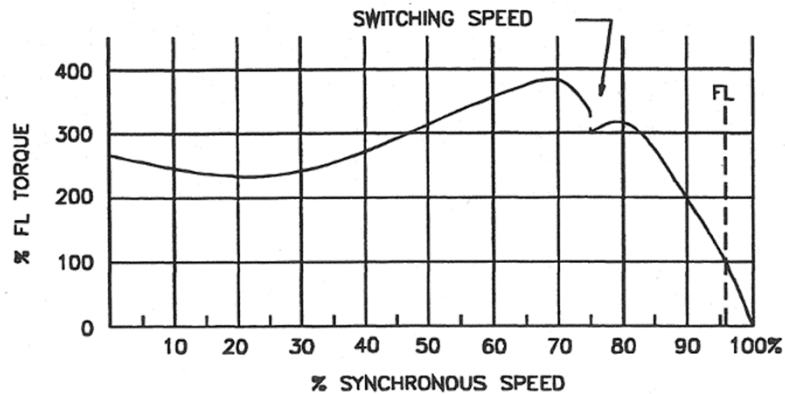

Figure 8 - The Typical characteristic curve of a split-phase motor
25. The starting torque of a split-phase motor is relatively low because of the phase difference between the current in the stator winding and the current in the rotor winding. A typical characteristic curve for a split-phase motor is shown in Figure 8.